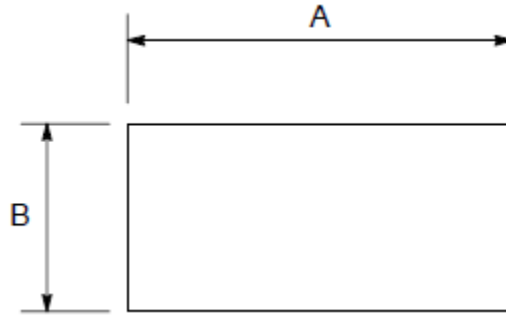

Figure 2. PE Cap
- 1.3. Refer to Table 2 for PE cap (Figure 2) dimensions and code numbers. Contact the responsible gas engineer for cap sizes without code numbers, for pipe sizes not shown, or when the use of PE caps are at depths greater than those listed in Table 3.